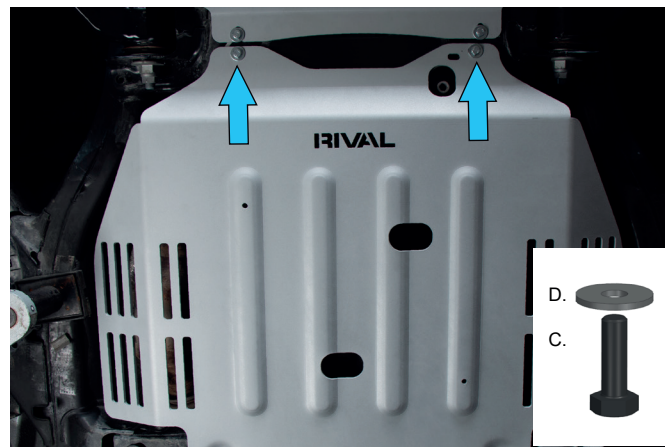

Fig. 4
4. Fix the front part gearbox skid plate using bolts M8x25 (item C) and washers 8 (item D), as shown in fig.4.